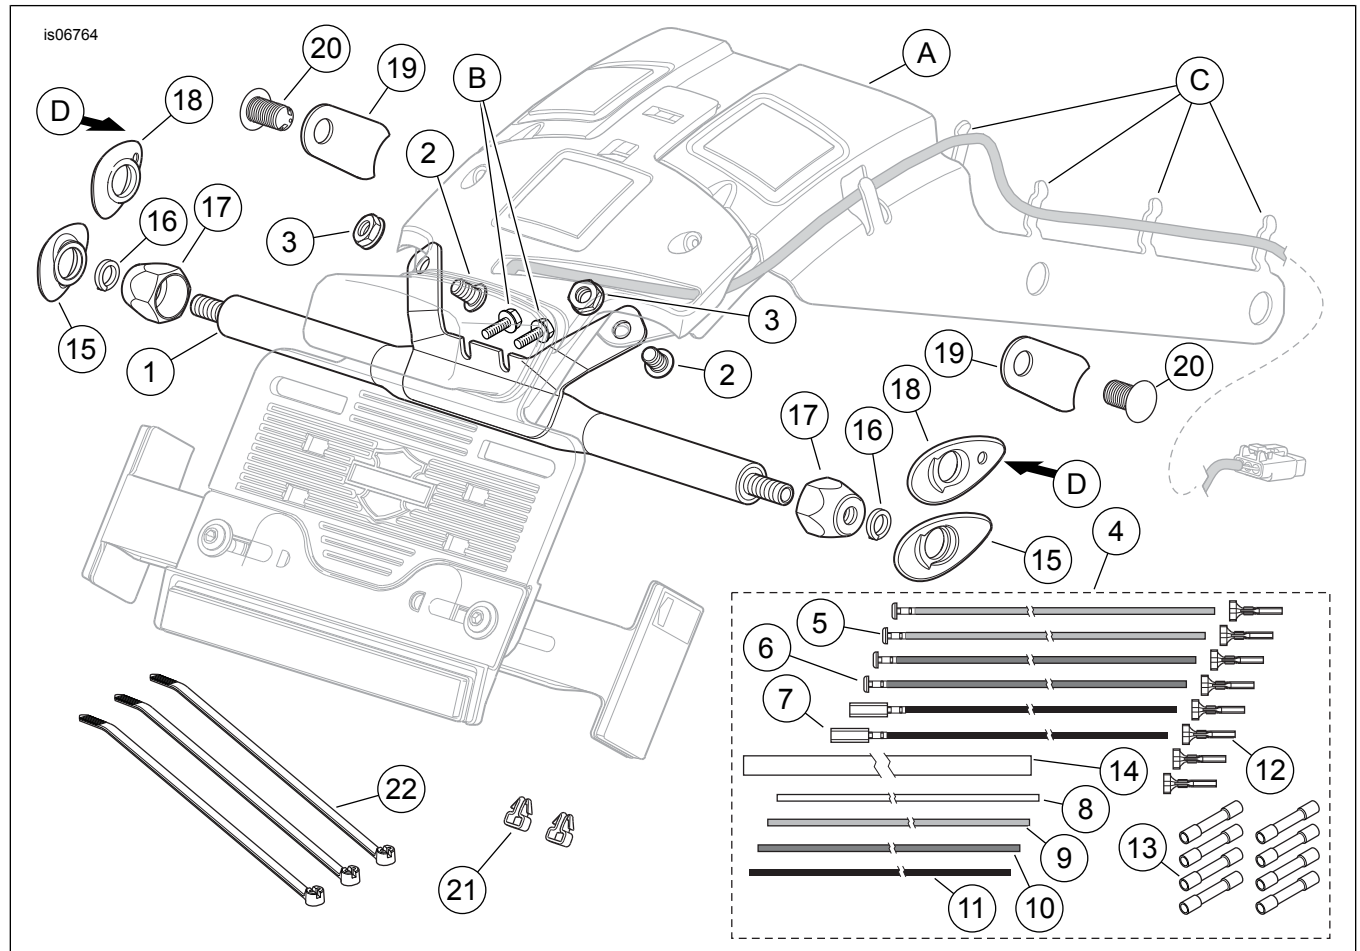

Figure 3. Service Parts, FXS Tail/Stop/Turn Signal Relocation Kit
1. See Figure 3. Loosely install a black painted jam nut (17) onto one of the threaded studs on the light bar weldment. Place a lockwasher (16) onto the stud, against the jam nut. Place a black recess cover (15), in the orientation shown, onto the stud.
2. Insert the STT lamp wires through the small hole in the black rubber recess cover (18) in the direction shown (D).
3. See Figure 3. Loosely install a black painted jam nut (17) onto one of the threaded studs on the light bar weldment. Place a lockwasher (16) onto the stud, against the jam nut.
1. See Figure 3. Feed the right side STT lamp wiring following the path of the license plate illuminator wiring through the channel and behind the four clips (C) on the license plate module support assembly (A), toward the front of the fender and out through the wire pass-through hole in the fender. Repeat for the left side STT wiring.
2. Fasten the wiring to the fender with the wire clips (21) from the kit.
5. Get six socket terminals (12) from the kit, and the four-way socket housings removed from the original wires.
9. Use a cable strap (22) from the kit to secure the wiring.
11. **After installing the saddlebags**, install cover plates (19) in the locations where the stock STT lamps were removed. Orient the cover plate with the curved side towards the docking point. Insert a push pin (20) through the cover plate to secure it to the vehicle.